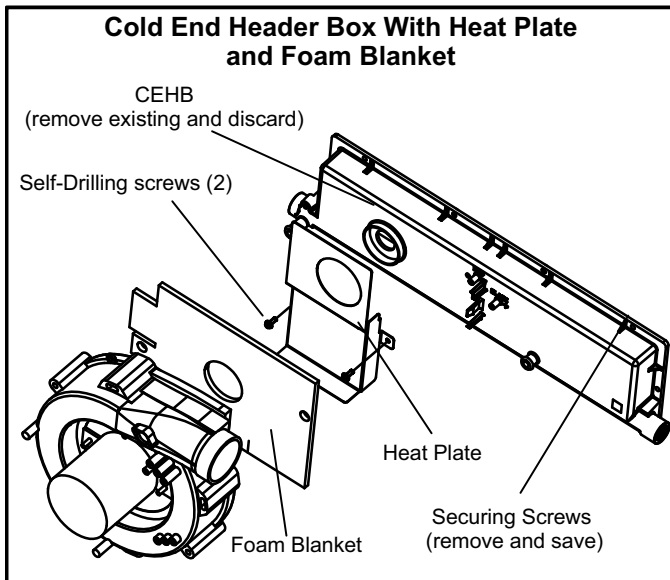

FIGURE 2
16. -Remove backing from foam blanket and apply making sure the screw holes on the blanket are aligned with screw holes on the CEHB. See figure 2.